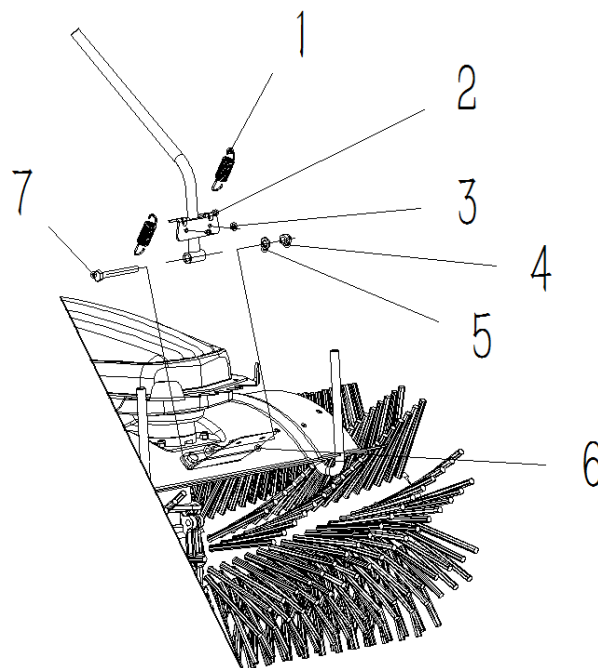

Figure 5
2.5 Install the Brush Steering Lever: Align the upper tube of the steering lever (2) to the tube on the hinge seat, pass hex bolt M8x70 (7) into the tube, place the flat gasket $\Phi 8 \times \Phi 16 \times 1.2$ (5), and tighten up with hex lock nut M8 (4). Use one end of the armrest adjusting tension spring (1) to cover the main baffle screw and the other end to hook inside the hole of the steering lever, align the rubber piece (6) to two holes on the steering lever, and fix the rubber piece with cross-recessed flat head screw M6x12 (3). (See Figure 5)